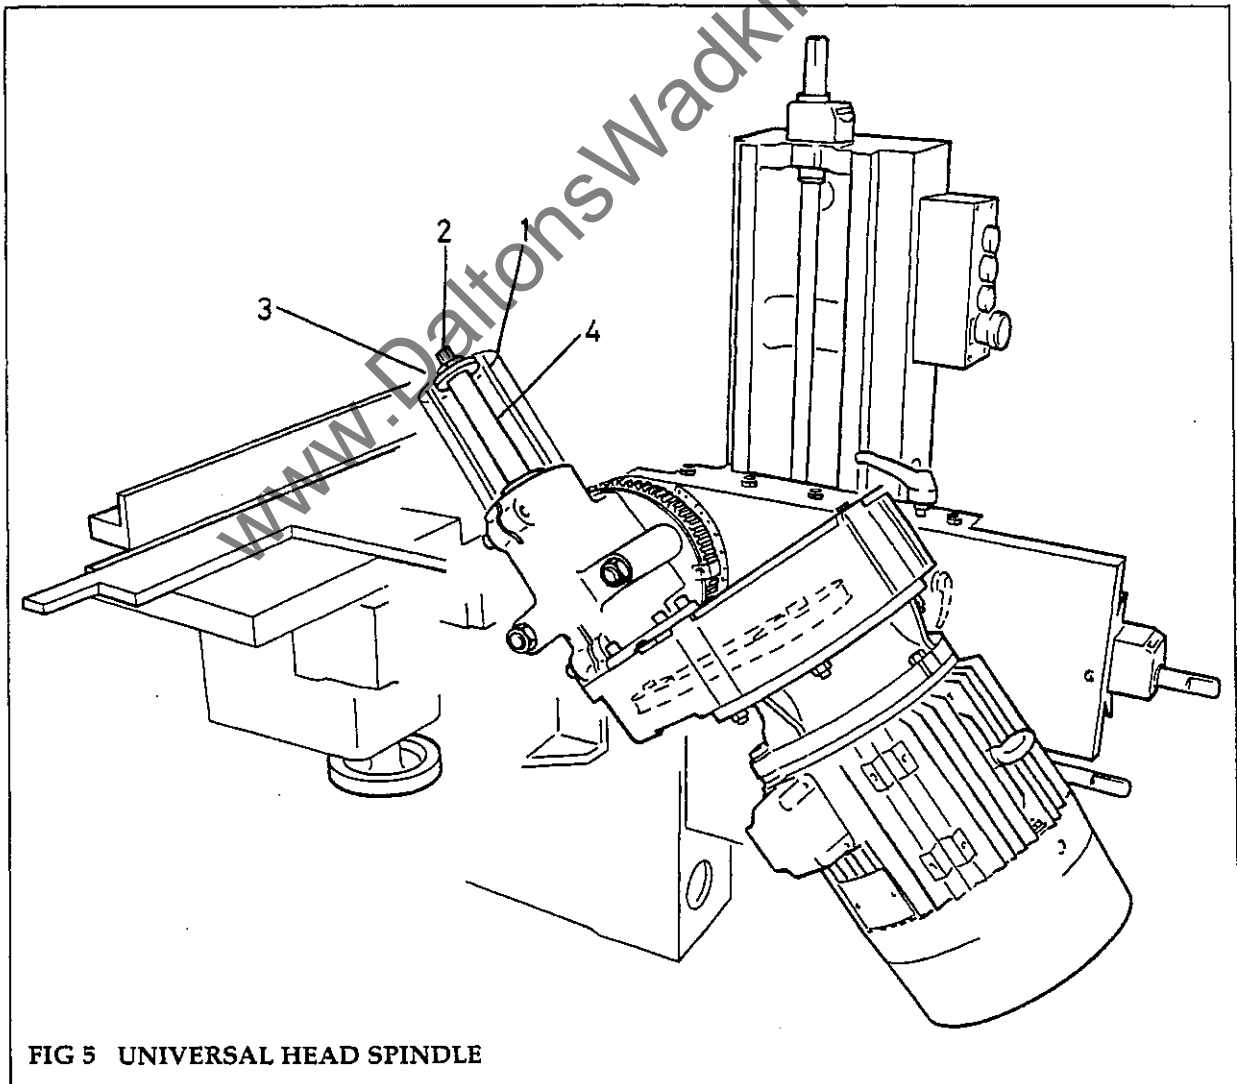
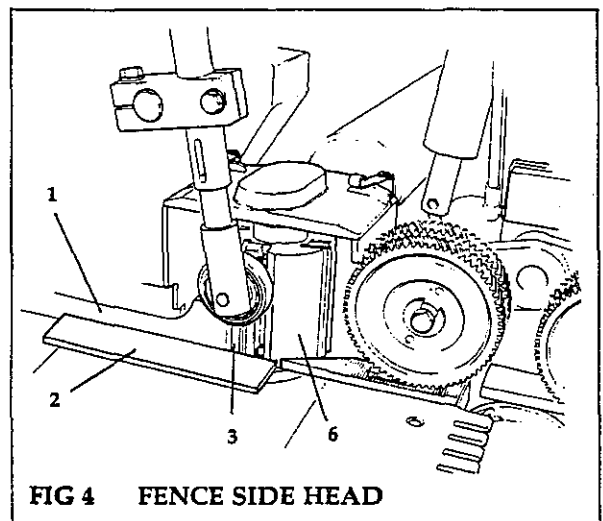

FIG 5 UNIVERSAL HEAD SPINDLE
FIG 4 FENCE SIDE HEAD
**TOP HEADS (fig4)**
- (1) Slacken off shoulder screws (1) and remove outboard bearing cover (2).
- (2) Depressurise the outboard bearing by turning the pressure release valve one quarter of a turn using a 3mm Allen Key.
- (3) Slacken off the two 12mm collar nuts (3), swing captive 'c' washers (4) clear and remove outboard bearing housing (5)
- (4) Remove and replace new cutterblock as described in General section.
- (5) Replace bearing housing (5) and re-tighten captive 'c' washer (4) and collar nuts. Tighten pressure release valve and pressurise bearing to 300 bar (4350 p.s.i.) by application of hydraulic pressure to the nipple in the recess on the face of the bearing. Replace outboard bearing cover.
**UNIVERSAL HEAD (fig 5) - if fitted**
- (1) Remove guard for access, remove existing cutterblock as follows:
- a. Release cutterblock (1) using the combination spanner provided on the spindle hexagon (2) and the two flat faces of the cutterblock locknut (3).
- (2) Check that the spindle flange and the flange end of the replacement cutterblock are clean.
- (3) Slide the new cutterblock (1) onto the spindle (4) and tighten using the combination spanner provided.
(4) Check direction of cut. Ensure the locking collar (3) is fitted.
**NOTE:** In the bottom head position always change the cutterblock from the rear of the machine. However, in the vertical mode it is possible to change the cutterblock from the nearside, using a similar procedure. (See fig 21 for Universal head modes). Fig 5 shows the head in the near side vertical (angled or canted) mode.
Fence Side Head (Fig 4, Fig 5)